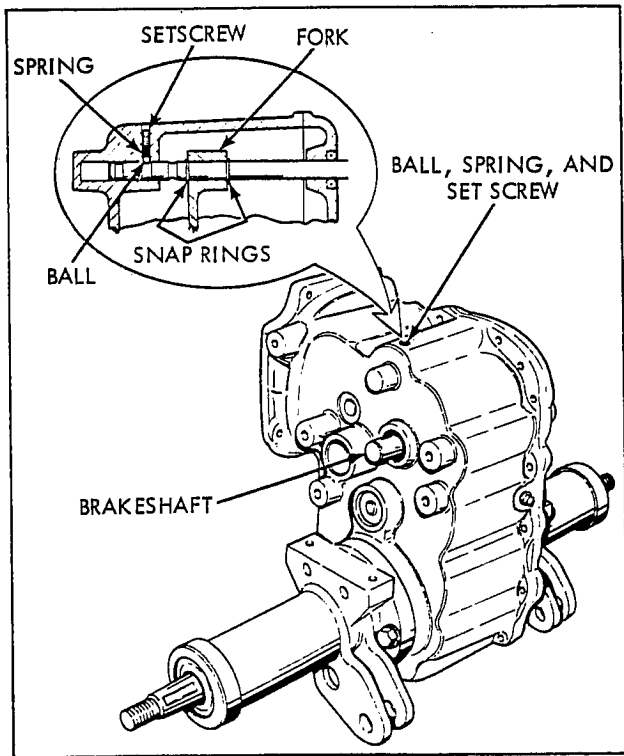

Figure 7-18 2500 Series Rear View
- (1) Remove the output shaft, thrust washer and gears.
- (2) Lift out the differential assembly.
- (3) Lift out the input bevel, gear and shaft as an assembly.
- (4) Work the shifter shaft and gears out of mesh with the shifter fork and rod and remove.
- (5) To remove the shifter rod and fork, the set screw, spring and ball (Fig. 7-18) should be removed at the outside of the case.
- (1) Lift out the differential assembly.
- (2) Remove the output gear and shaft.
- (3) On the outside of the case (Fig. 7-18), remove the set screw, spring and ball.
- (4) Remove both the input and shifter gear and shaft assemblies, along with the shifter rod and fork.
- (5) Further disassembly of the components will be handled in Paragraph 4, Inspection and Repair.
- (c) Lubrication for all models is 7 to 8 pints of SAE Type A Automatic transmission fluid. When filling with fluid, allow fluid to settle behind the tapered bearings into the axle supports. This may necessitate filling, checking and adding. The lubrication fill and check hole is located in the case as shown in figure 7-18. If the shrouding on the vehicle does not allow access to the fill and check hole when the 2500 is installed in the chassis, lubrication should be filled prior to installation on vehicle. If filling takes place before installing 2500 in vehicle the unit must be oriented as shown in figure 7-18 or at a 90° angle to the axles. There should be no fluid leak.